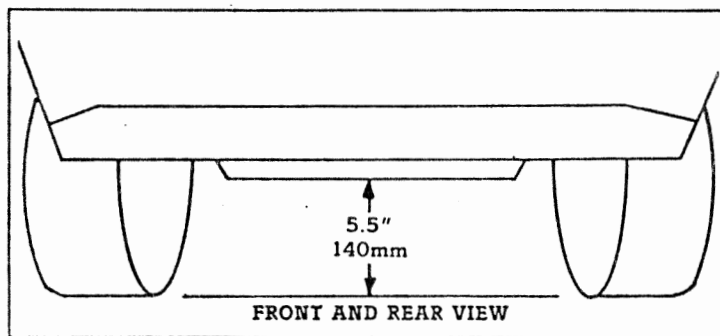

FIGURE 1
5. Check and, if necessary, adjust setting height 140mm (5.5 inches). FIGURE 1. This measurement must be taken from the center of the front crossmember.